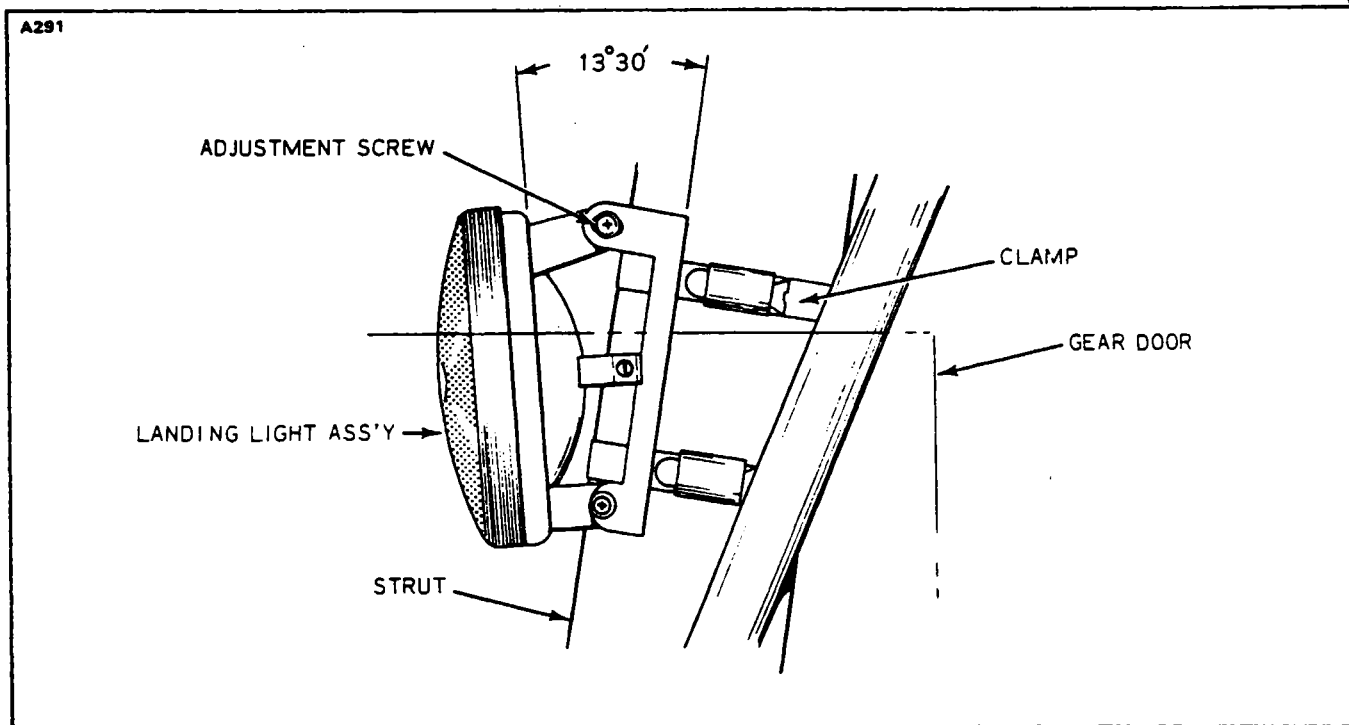

Figure 11-21. Landing Light Adjustment
11-49. REMOVAL OF LANDING AND TAXI LIGHTS. (Refer to Figure 11-21.)
11-50. INSTALLATION OF LANDING AND TAXI LIGHTS. (Refer to Figure 11-21.)
- c. To install the landing light assembly to the strut, position the assembly against the strut housing with the bottom of the mounting fixture 2.9 inches up from the bottom of the strut housing. (Refer to Figure 11-21.)